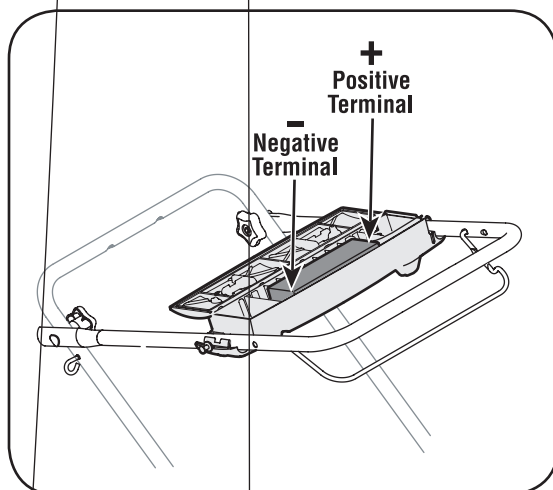

Figure 5-7
**NOTE:** The battery you have may differ slightly from the one shown in Figure 5-7. Refer to the Parts List.
**IMPORTANT:** When replacing battery pack in handle panel, battery pack must be positioned with the positive terminal to the left side and the negative terminal to the right side of panel (Positive terminal is closest to the key switch). See Figure 5-7. Replacing battery pack incorrectly will cause **serious damage**.